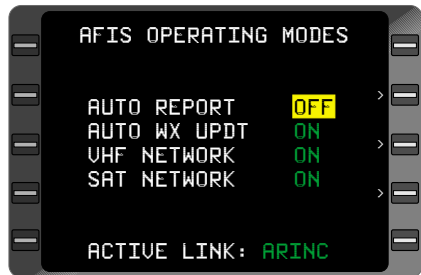

Figure 7-83
4. Line Select Key - DEPRESS to position cursor over **OFF** option of **AUTO REPORT** or **AUTO WX UPDATE** field. (Figure 7-83)